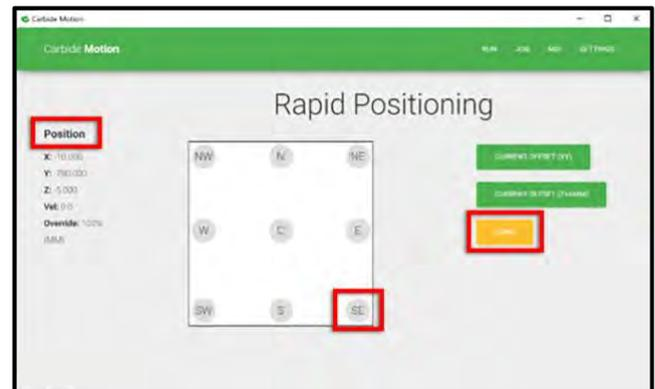

Figure 46
2. Position your spindle directly above the BitSetter. See *Fig. 46*.